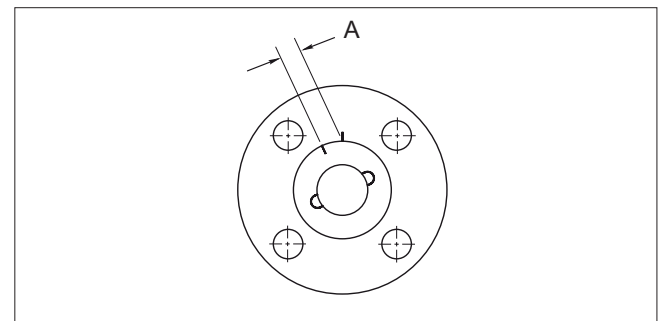

Figure 9. Insert Orientation
8. Insert the body seal (6) and gently press it into the groove in the body.
9. After applying a lubricant compatible with the media to the insert threads, screw the insert (2) into the body and tighten to the required torque shown in (Table 2). If a torque-wrench is not available, tighten the insert the same number of turns as in Step 4 until the marks match the "A" dimension shown in (Table 2) and illustrated in (Figure 9).